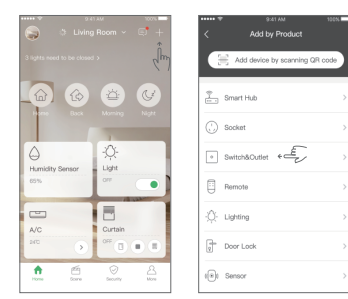

Figure 3
- Open the HomeMate app and add your smart device step by step through the HomeMate app. As shown in Figure 3.